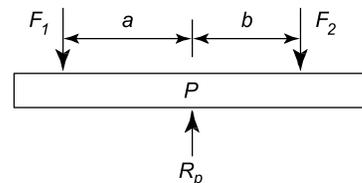

Figure 5.3
Figure 5.3 shows a beam with its support (known as its **pivot** or **fulcrum**) at  $P$ , acting vertically upwards, and forces  $F_1$  and  $F_2$  acting vertically downwards at distances  $a$  and  $b$ , respectively, from the fulcrum.
- The sum of the forces acting vertically downwards must be equal to the sum of the forces acting vertically upwards, i.e. for Figure 5.3,  $R_p = F_1 + F_2$
This statement is known as the **principle of moments**. Hence, taking moments about  $P$  in Figure 5.3,